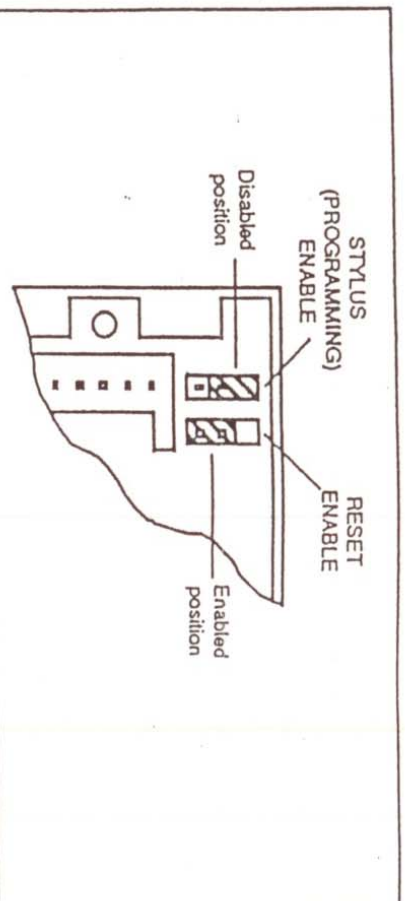

Figure 3-1. Jumper Enable/Disable Reset Positions
1. **ENABLE THE RESET AND STYLUS SWITCHES:** Before beginning the setup procedure, set the two jumpers on the back of the 2992B/2992C to their **ENABLE** positions to enable the reset switch and the stylus switch. (See Figure 3-1.)
Enable the front reset by positioning the reset jumper per Figure 3-1. Reset is initiated by momentary contact of the reset input to common, or by pressing the front panel reset switch.